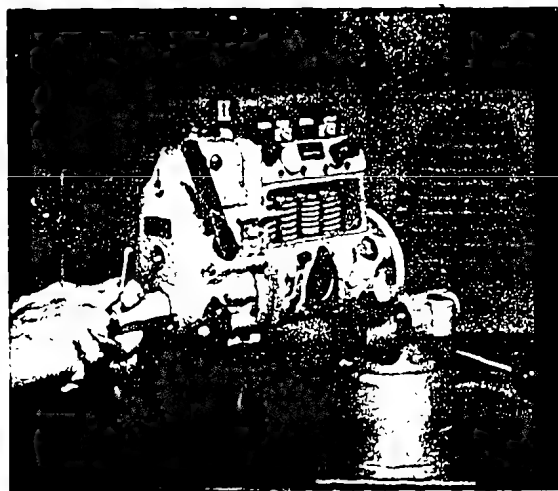

Fig. 4 Unscrewing of spring capsule
Unscrew spring capsule (39) from tensioning lever (35) releasing lock nut (40) with spanner EFEP 202 and remove spring capsule (Fig. 4).